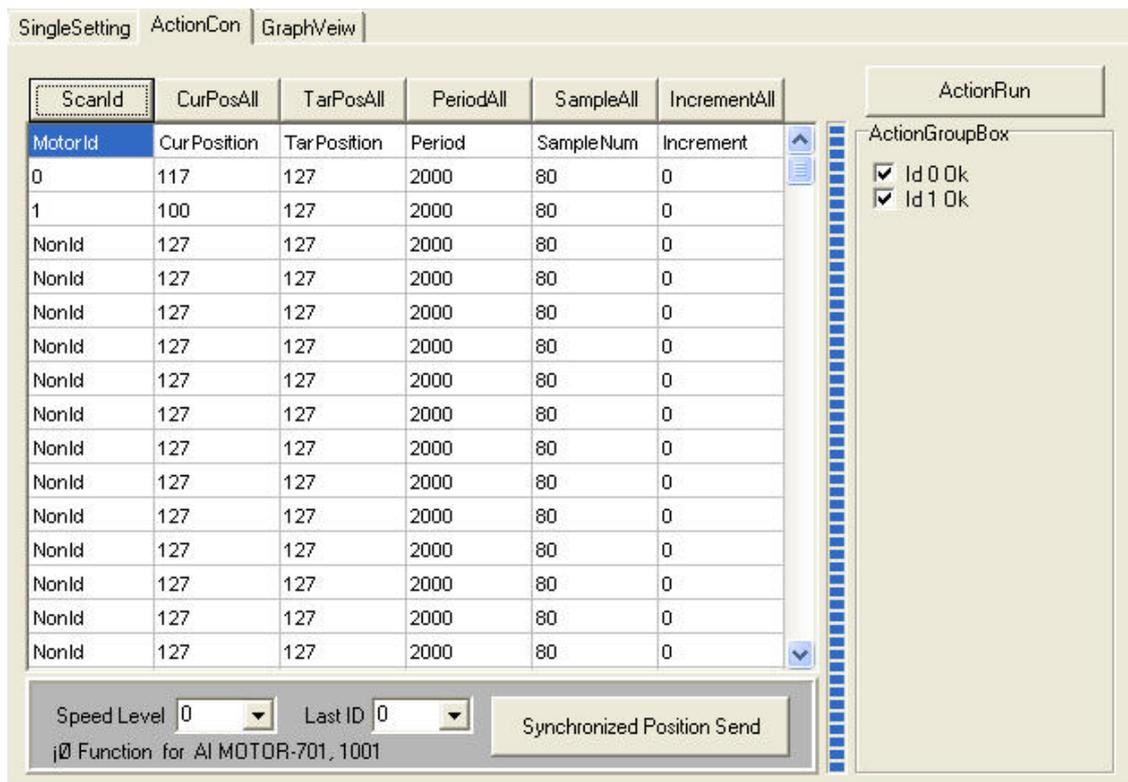

Figure 4 – Action Control Panel
- Select the ActionCon Panel (Refer Figure 4)